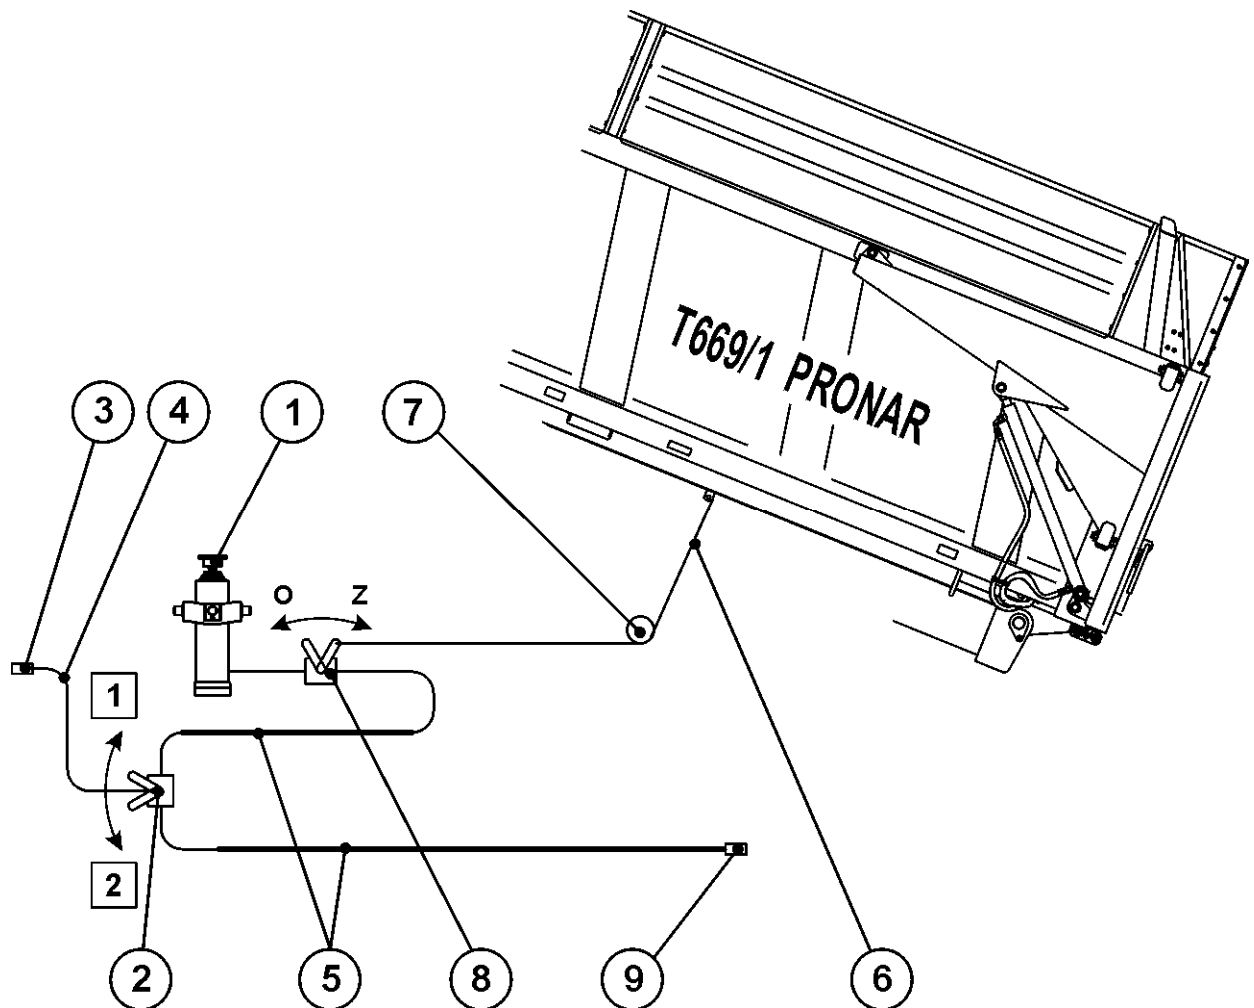

FIGURE 7. Hydraulic dump installation
The task of the line is to cut off inflow of hydraulic oil to the servo-motor (1), through restearing of the cut-off valve (2), at the moment of exceeding the admissible angle of dump of the load carrying body. The scheme of the hydraulic dump installation has been presented on figure 7.